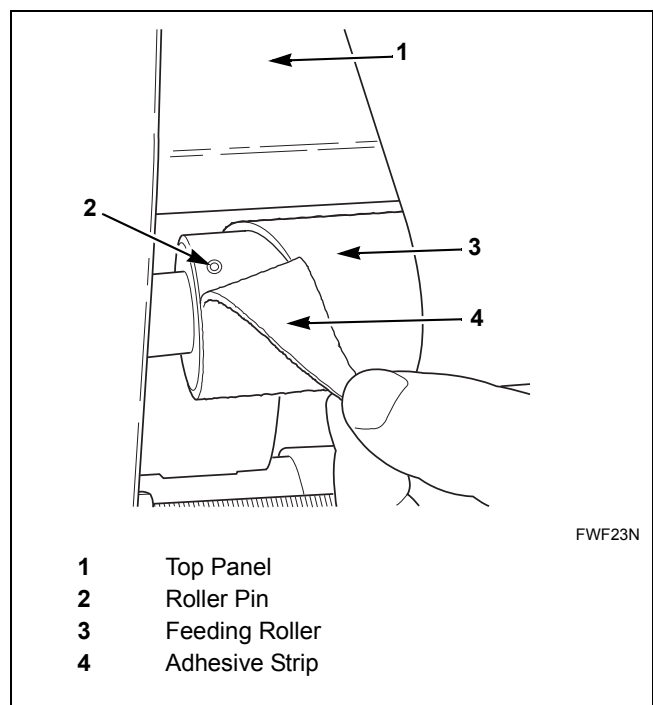

Figure 29
3. Peel back adhesive strip from left side of feeding roller to expose roller pin. Refer to *Figure 29*.